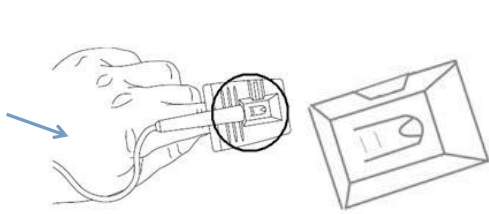

Figure 2 Finger Rubber Sensor
3. For Adult Finger Rubber SpO2 Sensor, insert one finger (index finger is preferred, but middle or ring finger with proper nail length is possible as well) into the sensor according to the mark on the sensor cap, as shown in Figure 2. Note that the finger should be inserted deeply enough so that the light emitted from the opto-sensor (at one side of Y-type sensor) will transmit through the finger bone for light scattering before reaching to the receiving part of the Y-type sensor.
4. For Universal Y-type with Rubber Wrap SpO2 Sensor, it can be wrapped onto finger or sole (especially for infant). This sensor is shown in Figure 2 with open status, the rubber wrapper can be removed from the Y-type sensor for cleaning, the wrapper fixation can be adjusted for sensor alignment and proper tightness. Place the Y-type sensor into its seating position within the wrapper and open the wrapper belt before wrapping onto finger or sole. When used on finger, put the finger inside the wrapper so as it is between the two sides of Y-type sensor, then wrap the wrapper belt around the sensor as illustrated in Figure 4(A). When used on sole, place the sole within the wrapper and wrap it up around the sole, then tighten the rubber belt with proper force as illustrated in Figure 4(B), it is strongly recommended to use self-adhesive gauze to fix the sensor cable nearby the measuring site, so that the relative moving between the sensor and the part to be measured could be avoided to increase signal quality.